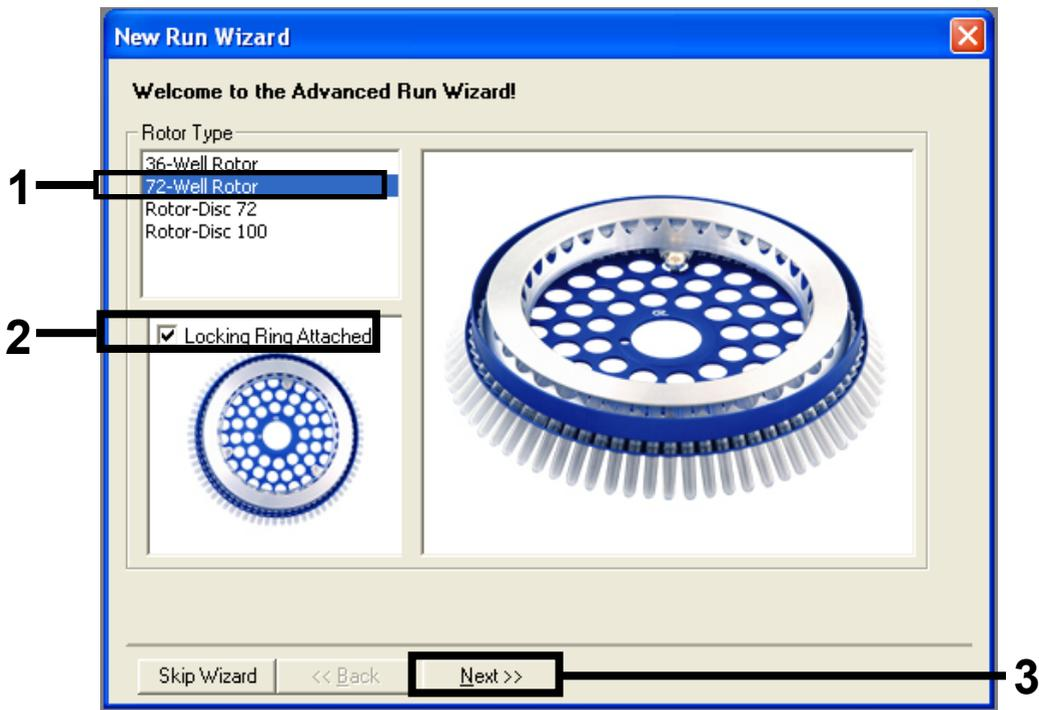

Figure 1. The “New Run Wizard” dialog box and welcome screen. 1 = Rotor type, 2 = “Locking Ring Attached box,” 3 = “Next.”
15. Ensure the correct rotor is selected and check the box to confirm the locking ring is attached. Click “Next” (Figure 1).